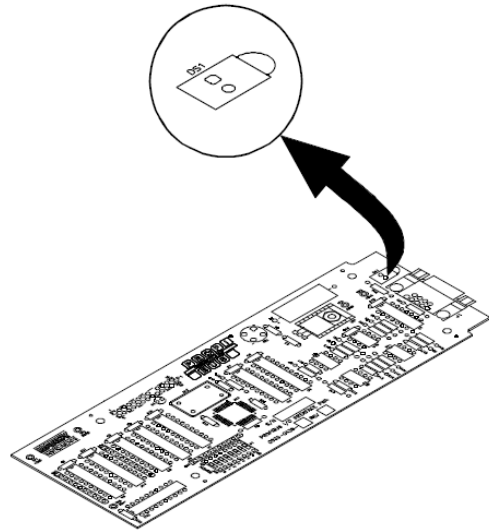

Figure 8-1
8.3.1 LED DOES NOT COME ON (SEE FIG. 8-1)
1. The PROFIBUS Interface Card is fitted with a “Green LED” (See Fig 8-1) with the following indicators: